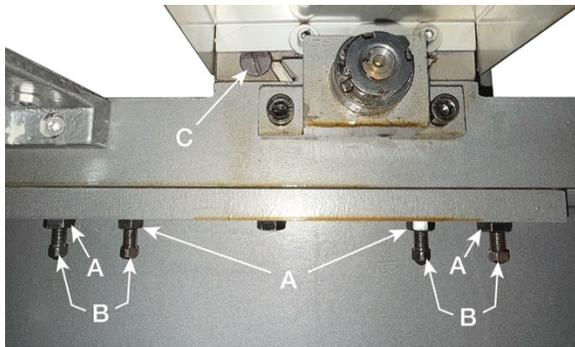

Figure 14-1
1. Loosen four hex nuts (A, Figure 14-1) found on the bottom rear of the cross slide.
2. Turn each of the four set screws (B, Figure 14-1) equally with a hex wrench until a slight resistance is felt. Do not over-tighten.
1. Loosen the rear gib screw (C, Figure 14-1) approximately one turn.